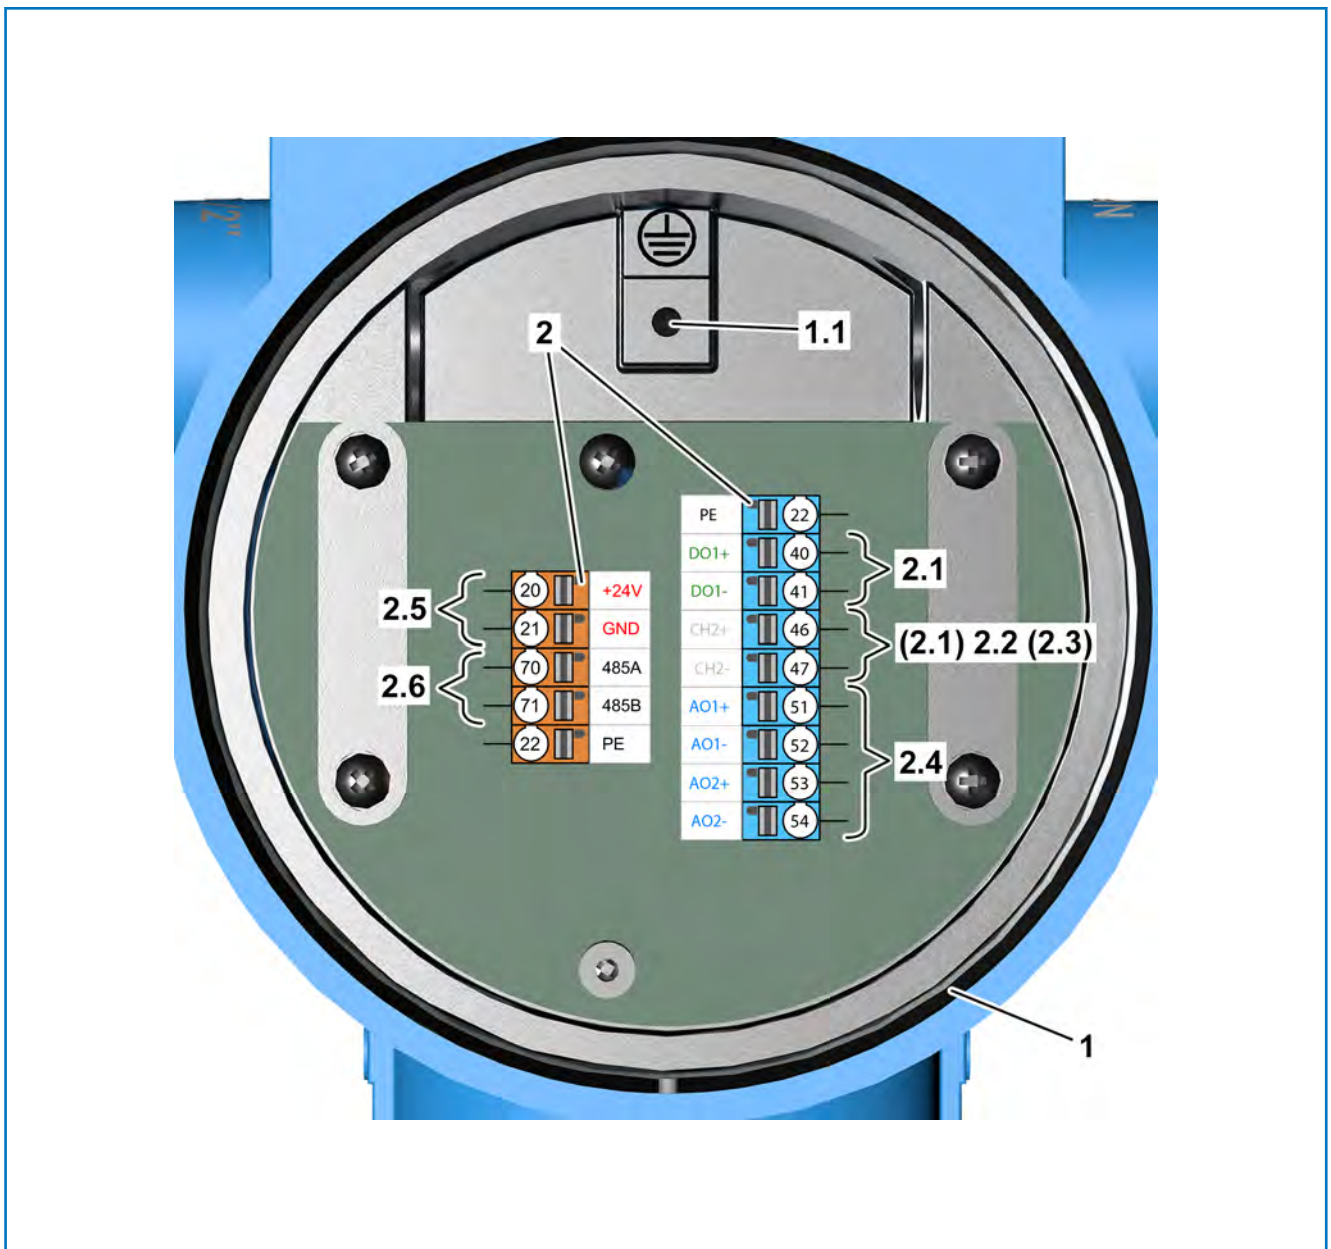

Fig. 8: Wiring diagram for RHE42-R\* Coriolis transmitter (intrinsically safe)
- → Figure 8: Wiring diagram for the RHE42-R\\* \(intrinsically safe\)